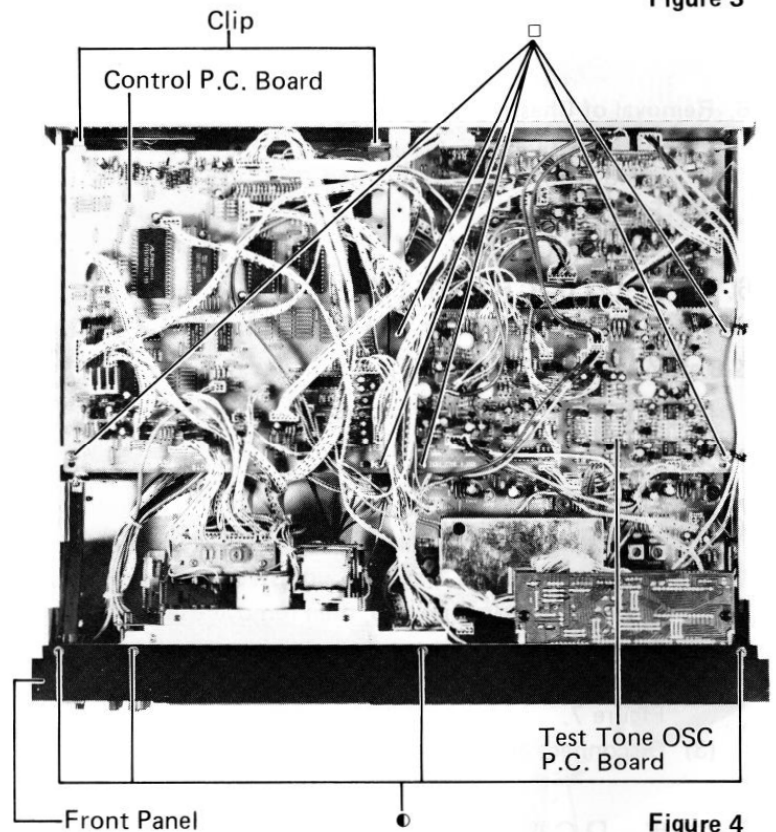

Figure 4
- (1) After removal of top cover, remove two clips as shown in Figure 4.
- (2) Remove six screws marked "□" as shown in Figure 4.
- (3) Disconnect all connectors from the P.C. Boards.
- (2) After removal of top cover, remove eight screws marked "●" as shown in Figures 4 and 5.
- (3) Remove the front panel.